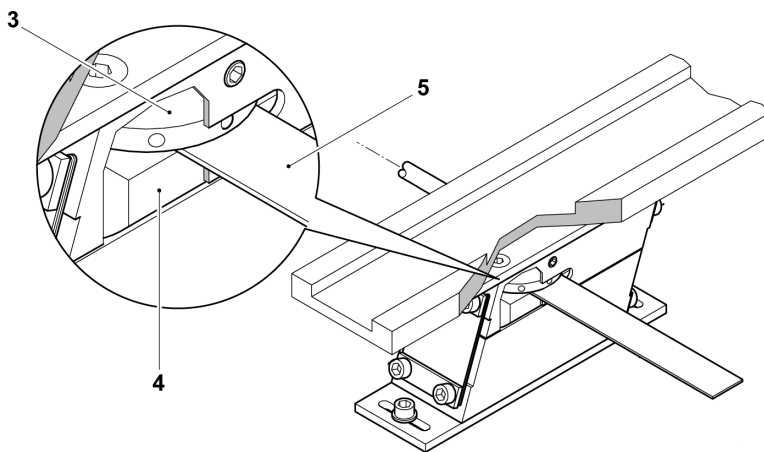

Figure 11
2. The air-gap between magnetic coil (4) and anchor screw (3) is to be adjusted by means of a feeder gauge (5) according to Table 1: Technical data (see Figure 11)